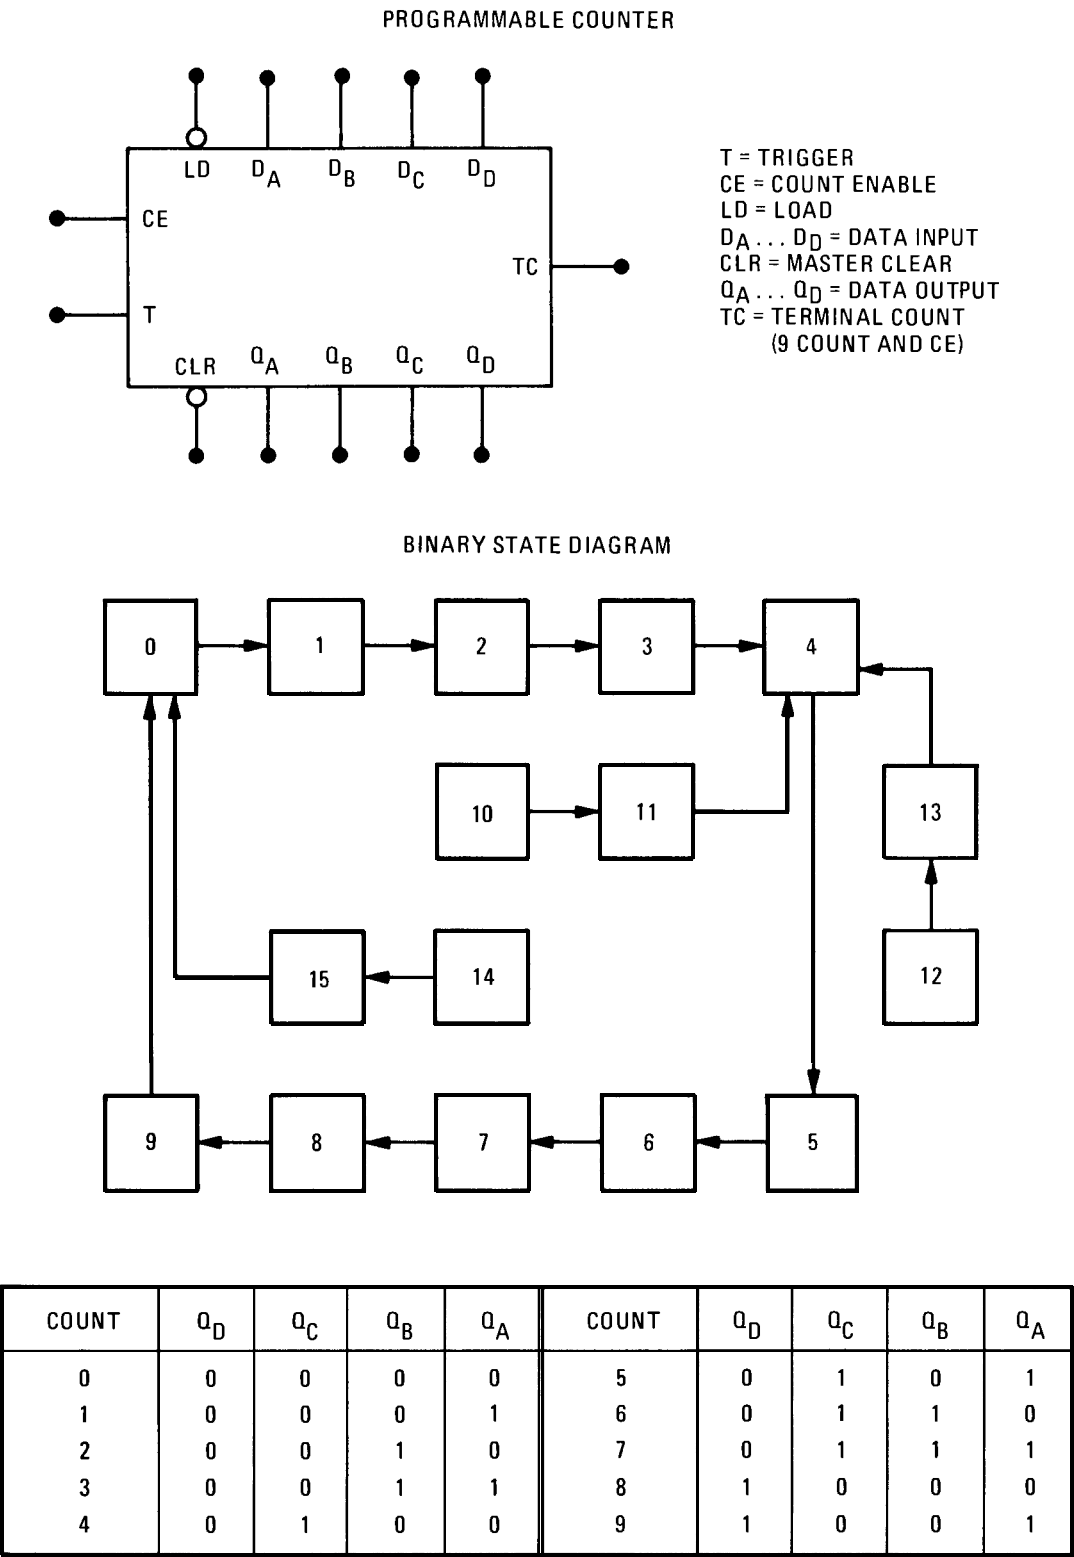

Figure 8-13. Programmable Counter
**8-62. Programmable Counter.** The programmable decade counter, shown in Figure 8-13, operates similarly to the basic decade counter when the load ( $LD$ ) input is high. The counter shown has only a single clear ( $CLR$ ) input which is active-low. When the load input is low, the information at the data (or preset) inputs ( $D_A$ ,  $D_B$ ,  $D_C$ , and  $D_D$ ) is transferred to the outputs at the next high going clock ( $T$ ) input. The outputs remain in the preset state until the load input returns to a high and the